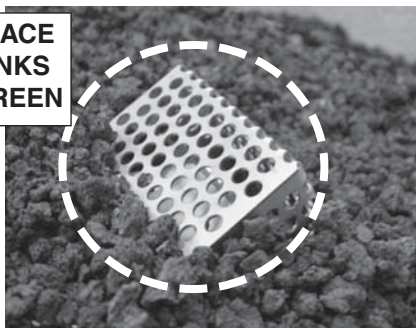

Fig. 14-2
1. Empty both bags of lava chunks into the burner pan (PARTS LIST, Item #8) and even it out without covering or blocking the ignitor screen (see Fig. 14-2).